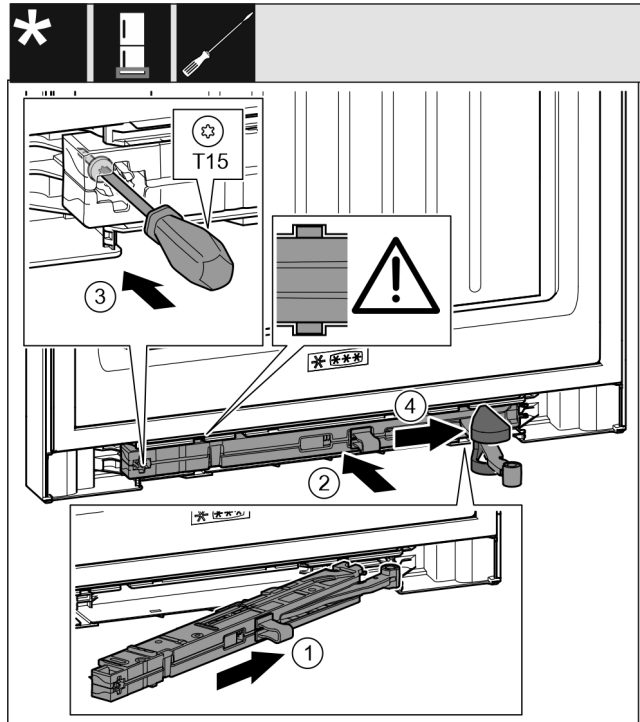

Fig. 49
- ▶ On the swap bearing block side, slide the closing damper unit Fig. 49 (1) into the recess at an angle up to the stop.
- ▶ Push the closing damper unit Fig. 49 (2) into the recess completely.
- ▶ Use a screwdriver to tighten the screw Fig. 49 (3).
- ▶ Push the cover Fig. 49 (4) over the joint.